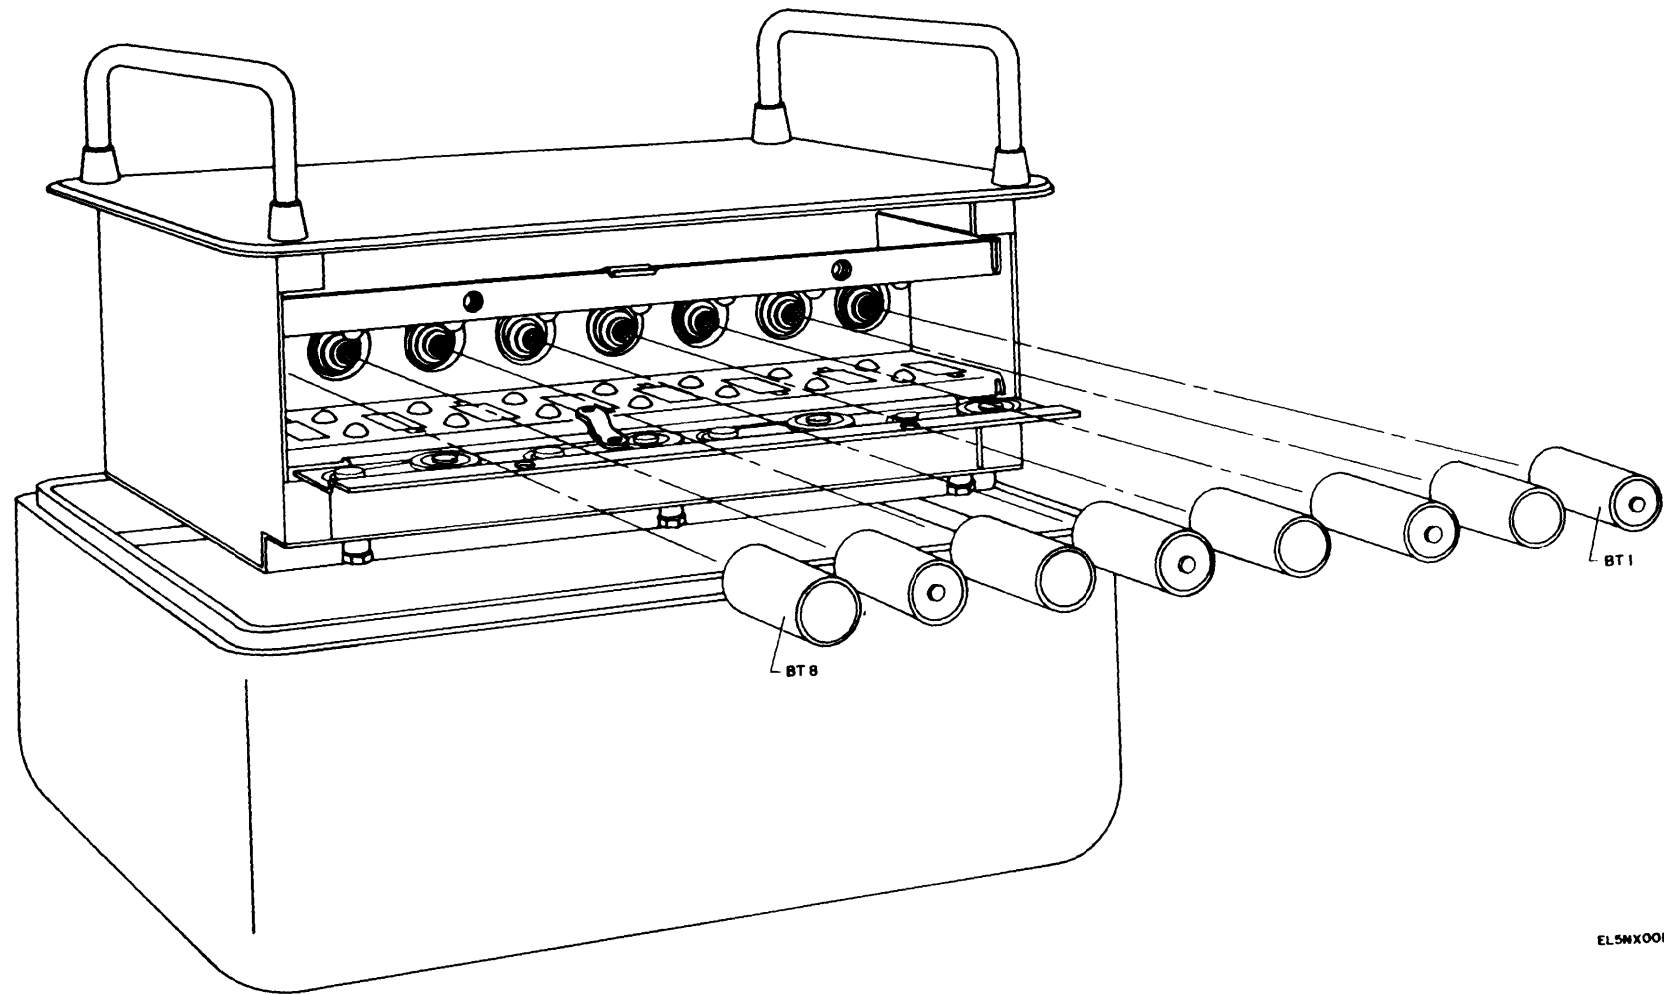

Figure 2-2. Location of batteries, dry BA-30. ■
(fig. 2-2)
(1) Loosen the 10 captive screws around the front panel.
(2) Remove the TS-1323/PTM-7 from the case with the handles provided on the front panel.
(3) Open the battery compartment door by loosening the two captive screws and releasing the spring clip on the compartment door (fig. 2-2)
(4) Remove any BA-30's that may be in the battery compartment.
(5) Insert eight BA-30's, as shown in figure 2-2. Batteries BT1, BT3, BT5, and BT7 are installed so that the positive terminal engages the contact on the compartment door. Batteries BT2, BT4, BT6, and BT8 are installed in the opposite direction, so that the positive terminal engages the contact on the spring inside the compartment.
(6) Close the compartment door, engage the spring clip, and tighten the two captive screws.
(7) Replace the TS-1323/PTM-7 in the case. Tighten the captive screws.